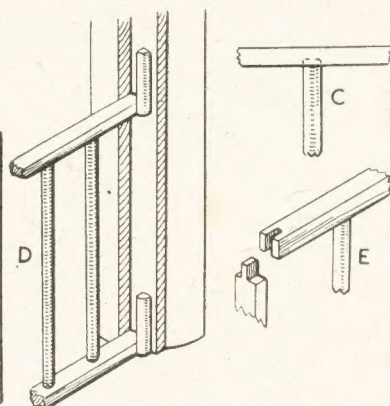

Fig. 2—Fixing socket and joints
This latter rod is now carefully sharpened with a file to a pencil point at each end, as shown in Fig. 2. The other
These holes are of the same diameter as the rod itself and should go to such a depth into the wood that the point of the wood drill just fails to show on the opposite side (see Fig. 2 C). Perhaps it would be as well to practice on a spare bit of wood before boring a hole in one of the pieces you are going to use.
Cut the beading for sockets into 6 in. lengths, then with thin panel pins of about 1 in. length, tack the beading as shown in Fig. 2 (D). The advantage of having short pieces of the length given is that the gate can be disengaged after raising only 6 ins. A longer strip of beading running up to double the height